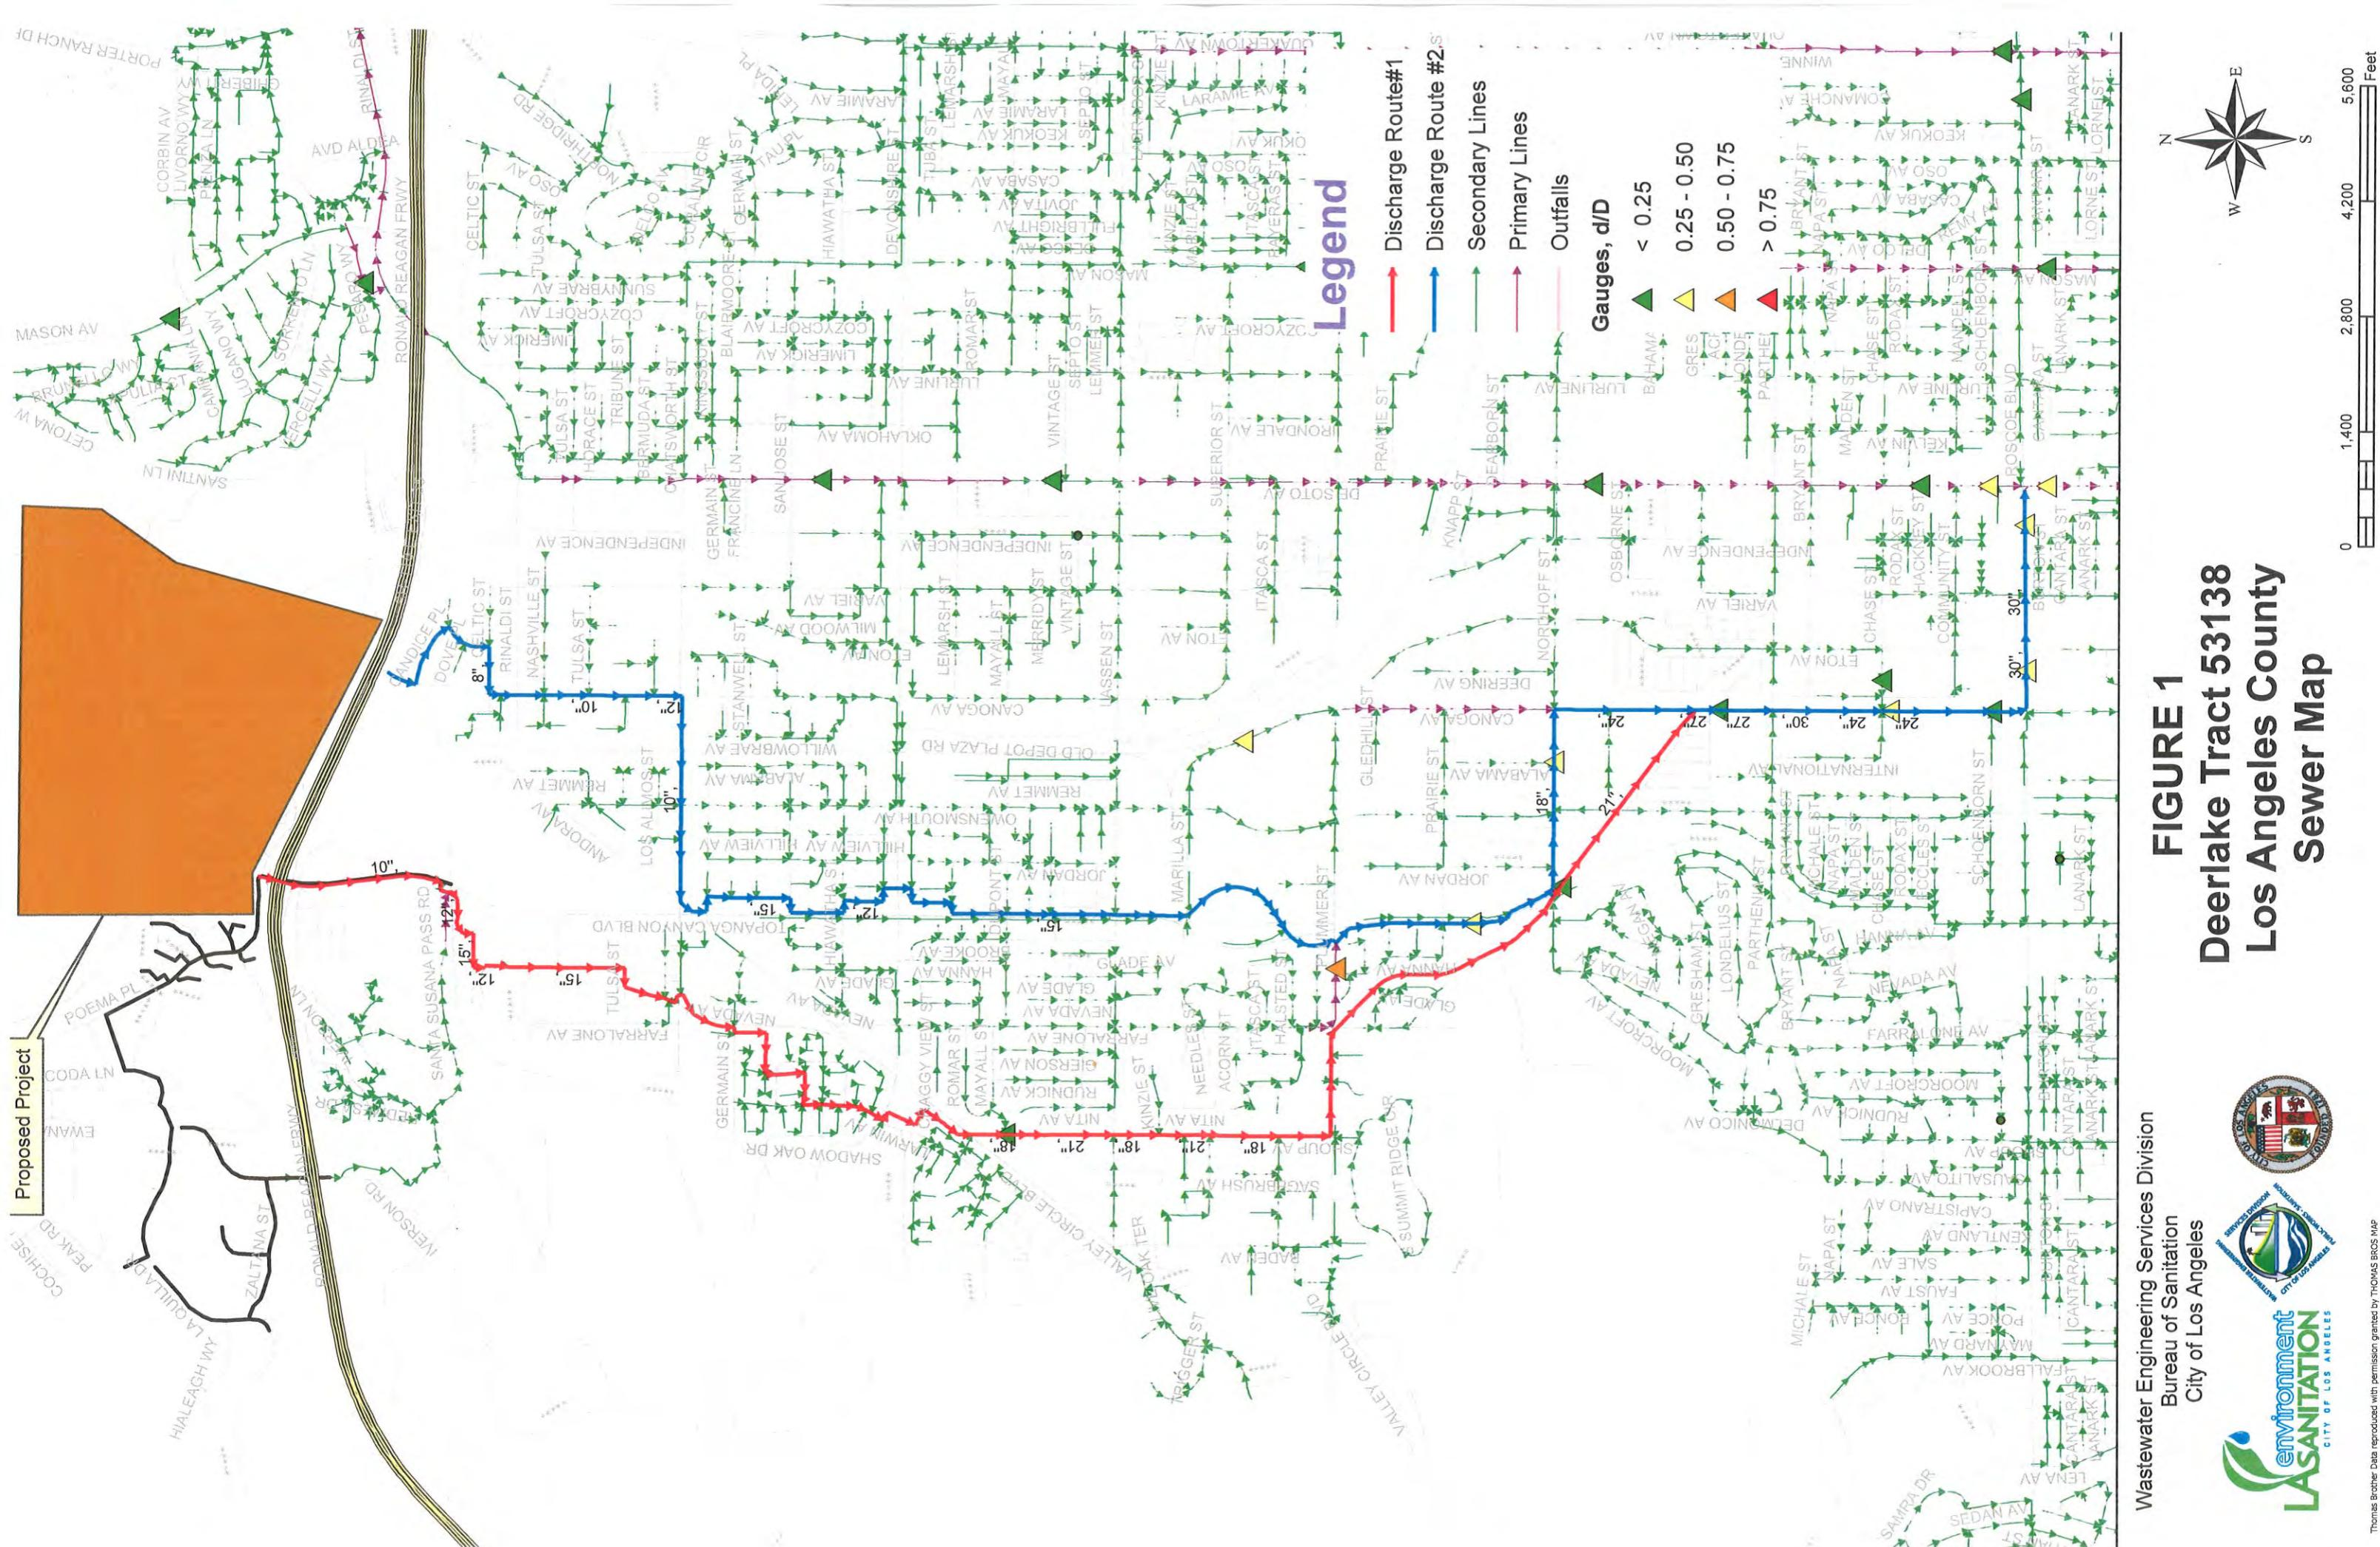

FIGURE 1
The sewer infrastructure in the vicinity of the proposed project includes two (2) discharge routes. Discharge Route (1) starts with an existing 10-inch line on Topanga Canyon Blvd for Point (1). The flow from the 10-inch line on Topanga Canyon Blvd passes into an 18-inch line on Shoup Ave before feeding into the 21-inch line on Topanga Canyon Blvd. Discharge Route (2) starts with an existing 8-inch line on Canoga Ave for Point (2). The flow from the 8-inch line on Canoga Ave passes into an 18-inch line on Topanga Canyon Blvd and then to another 18-inch line on Nordhoff St. On Canoga Ave the flow from the 21-inch line on Topanga Canyon Blvd from Point (1) join the flow from the 18-inch line on Nordhoff St from Point (2) to feed a 24-inch line before discharging into a 30-inch sewer line on Roscoe Blvd. Figure 1 shows the details of the sewer system within the vicinity of the project. The current flow level (d/D) in some of the lines cannot be determined at this time without additional gauging.
Attachment: Figure 1 – Sewer Map